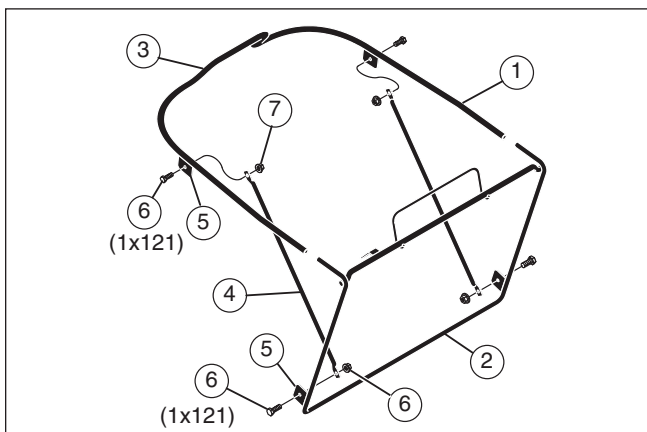

Figure 5
1. Slide the top tube (1) onto the wire frame (2) (see **Figure 5**). Make sure the handles (3) on the top tube and the wire frame are on top.
2. Attach the struts (4) to the INSIDE of the mounting tabs (5) with bolt (6) and nut (7). Make sure the head of bolt is on the outside and nut is locked against the strut.